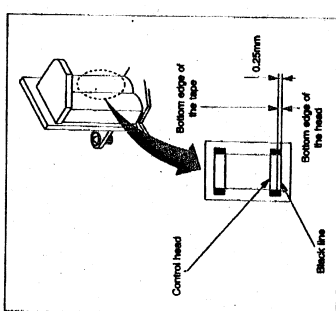

Fig. M15
- Adjust for 8 kHz audio section by means of the height adjustment screw (see Fig. M15).
- Adjust to maximum output voltage by means of the azimuth adjustment screw (Fig. M15).